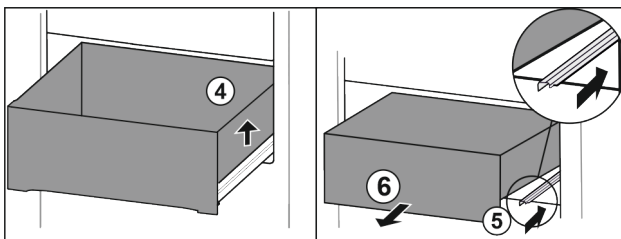

Fig. 91
- ▶ Lift drawer on the right. Fig. 91 (4)
- ▶ Insert right rail. Fig. 91 (5)
- ▶ Remove drawer to the front. Fig. 91 (6)